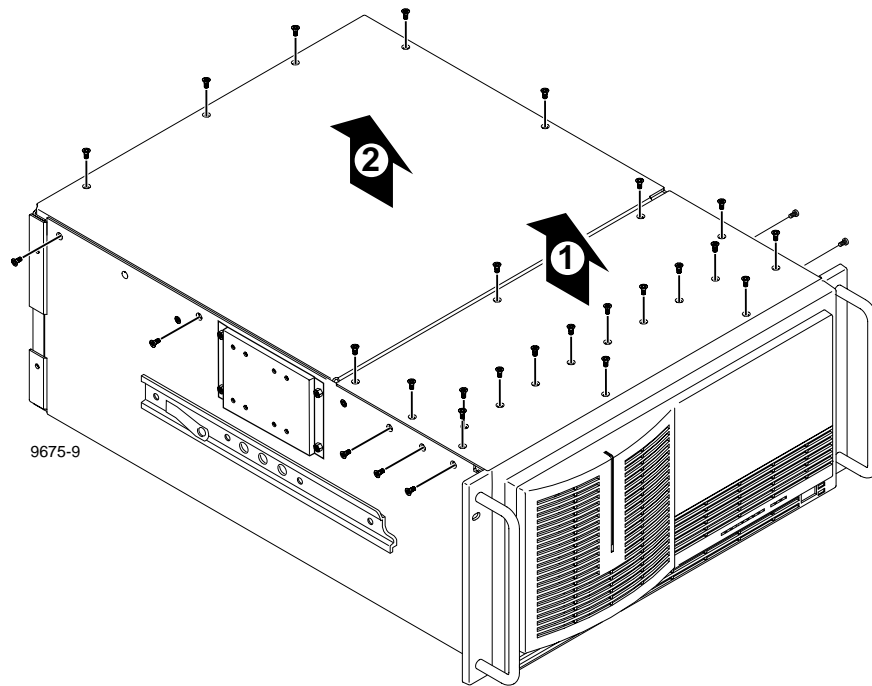

Figure 6-5. Removal of the Top Covers
Access to the media disk drive area, for removal of most of the parts in that area, does not require removal of the rear cover, while access to the board area requires removal of both covers. Referring to Figure 6-5, removal of the chassis covers requires a Torx tool with a T10 tip. Bear in mind that **all** chassis cover screws must be reattached when replacing the covers.
3. Use the Torx tool with the T10 tip to remove the front cover mounting screws and set the cover aside (Figure 6-5, page 6-8).